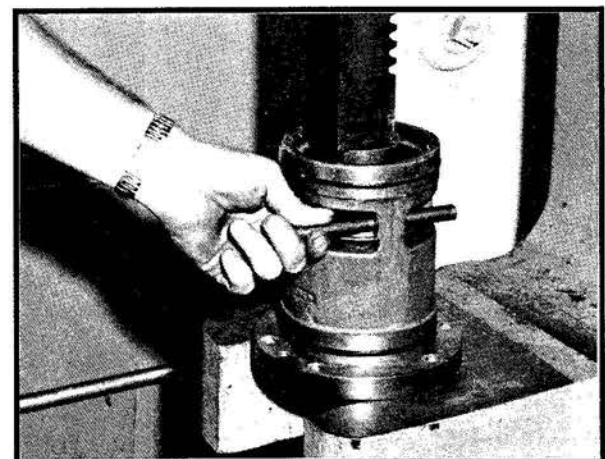

Figure 3-3 Inserting Wedges Through Port Openings
7. With extreme caution, depress piston against spring until rectangular ports are cleared. An arbor press may be necessary to depress piston depending on pressure exerted by main valve spring. Block piston in open position by inserting suitable wedges through port openings. Reference Figure 3-3.